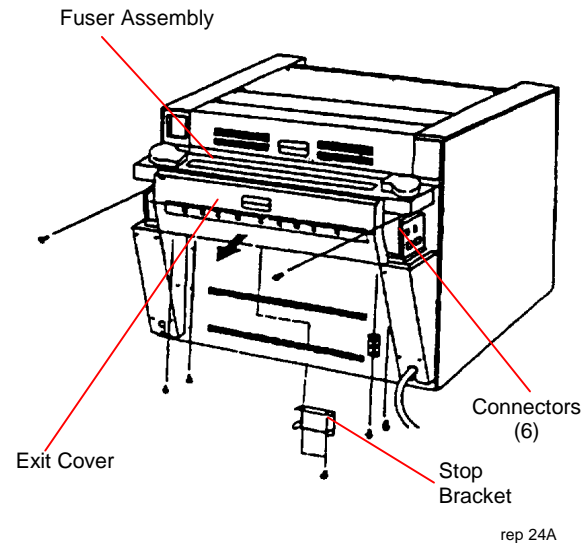

Figure 2. Removing the Fuser Assembly
5. (Figure 2): Push in the springs and remove the Exit Cover.